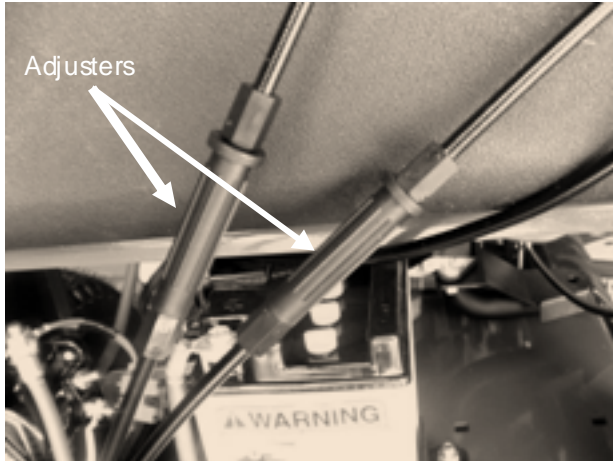

Figure 11
1. Locate the forward drive cable adjuster by following cable from drive control to adjuster **Figure 11**.
1. Locate the reverse drive cable adjuster by following cable from the reverse control to adjuster see **Figure 11** above.